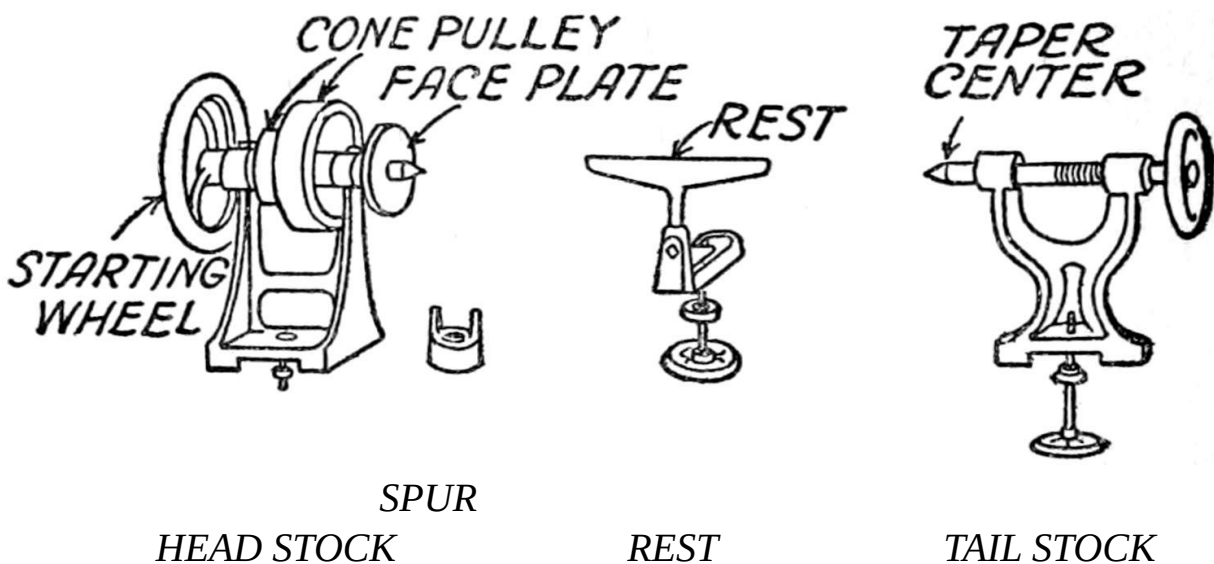

FIG. 16. THE CHIEF PARTS OF A TURNING LATHE
How a Lathe is Made.—A wood turning lathe consists of four principal parts, and these are (1) the *headstock*; (2) the *rest*; (3) the *tailstock*; (4) the *bed* and (5) the *stand*, the first three parts of which are shown in Fig. 16.